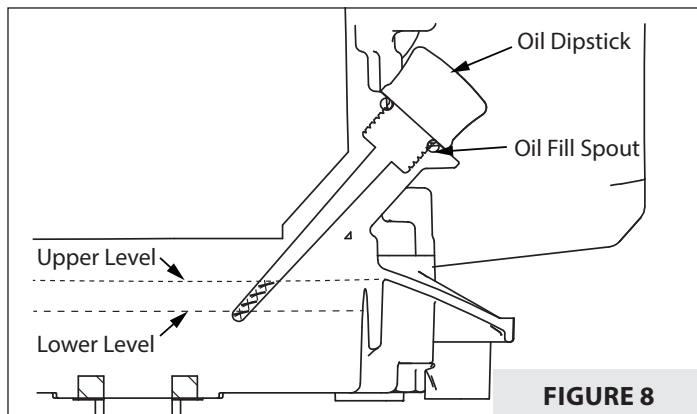

FIGURE 8
3. Tip engine back onto a level surface and fill with appropriate oil to the top of the marking on the dipstick (**SEE FIGURE 8**). **DO NOT OVERFILL.** For proper oil capacity, see the engine manufacturer's instructions.
4. Reinsert dipstick and tighten. **SEE FIGURE 8.**